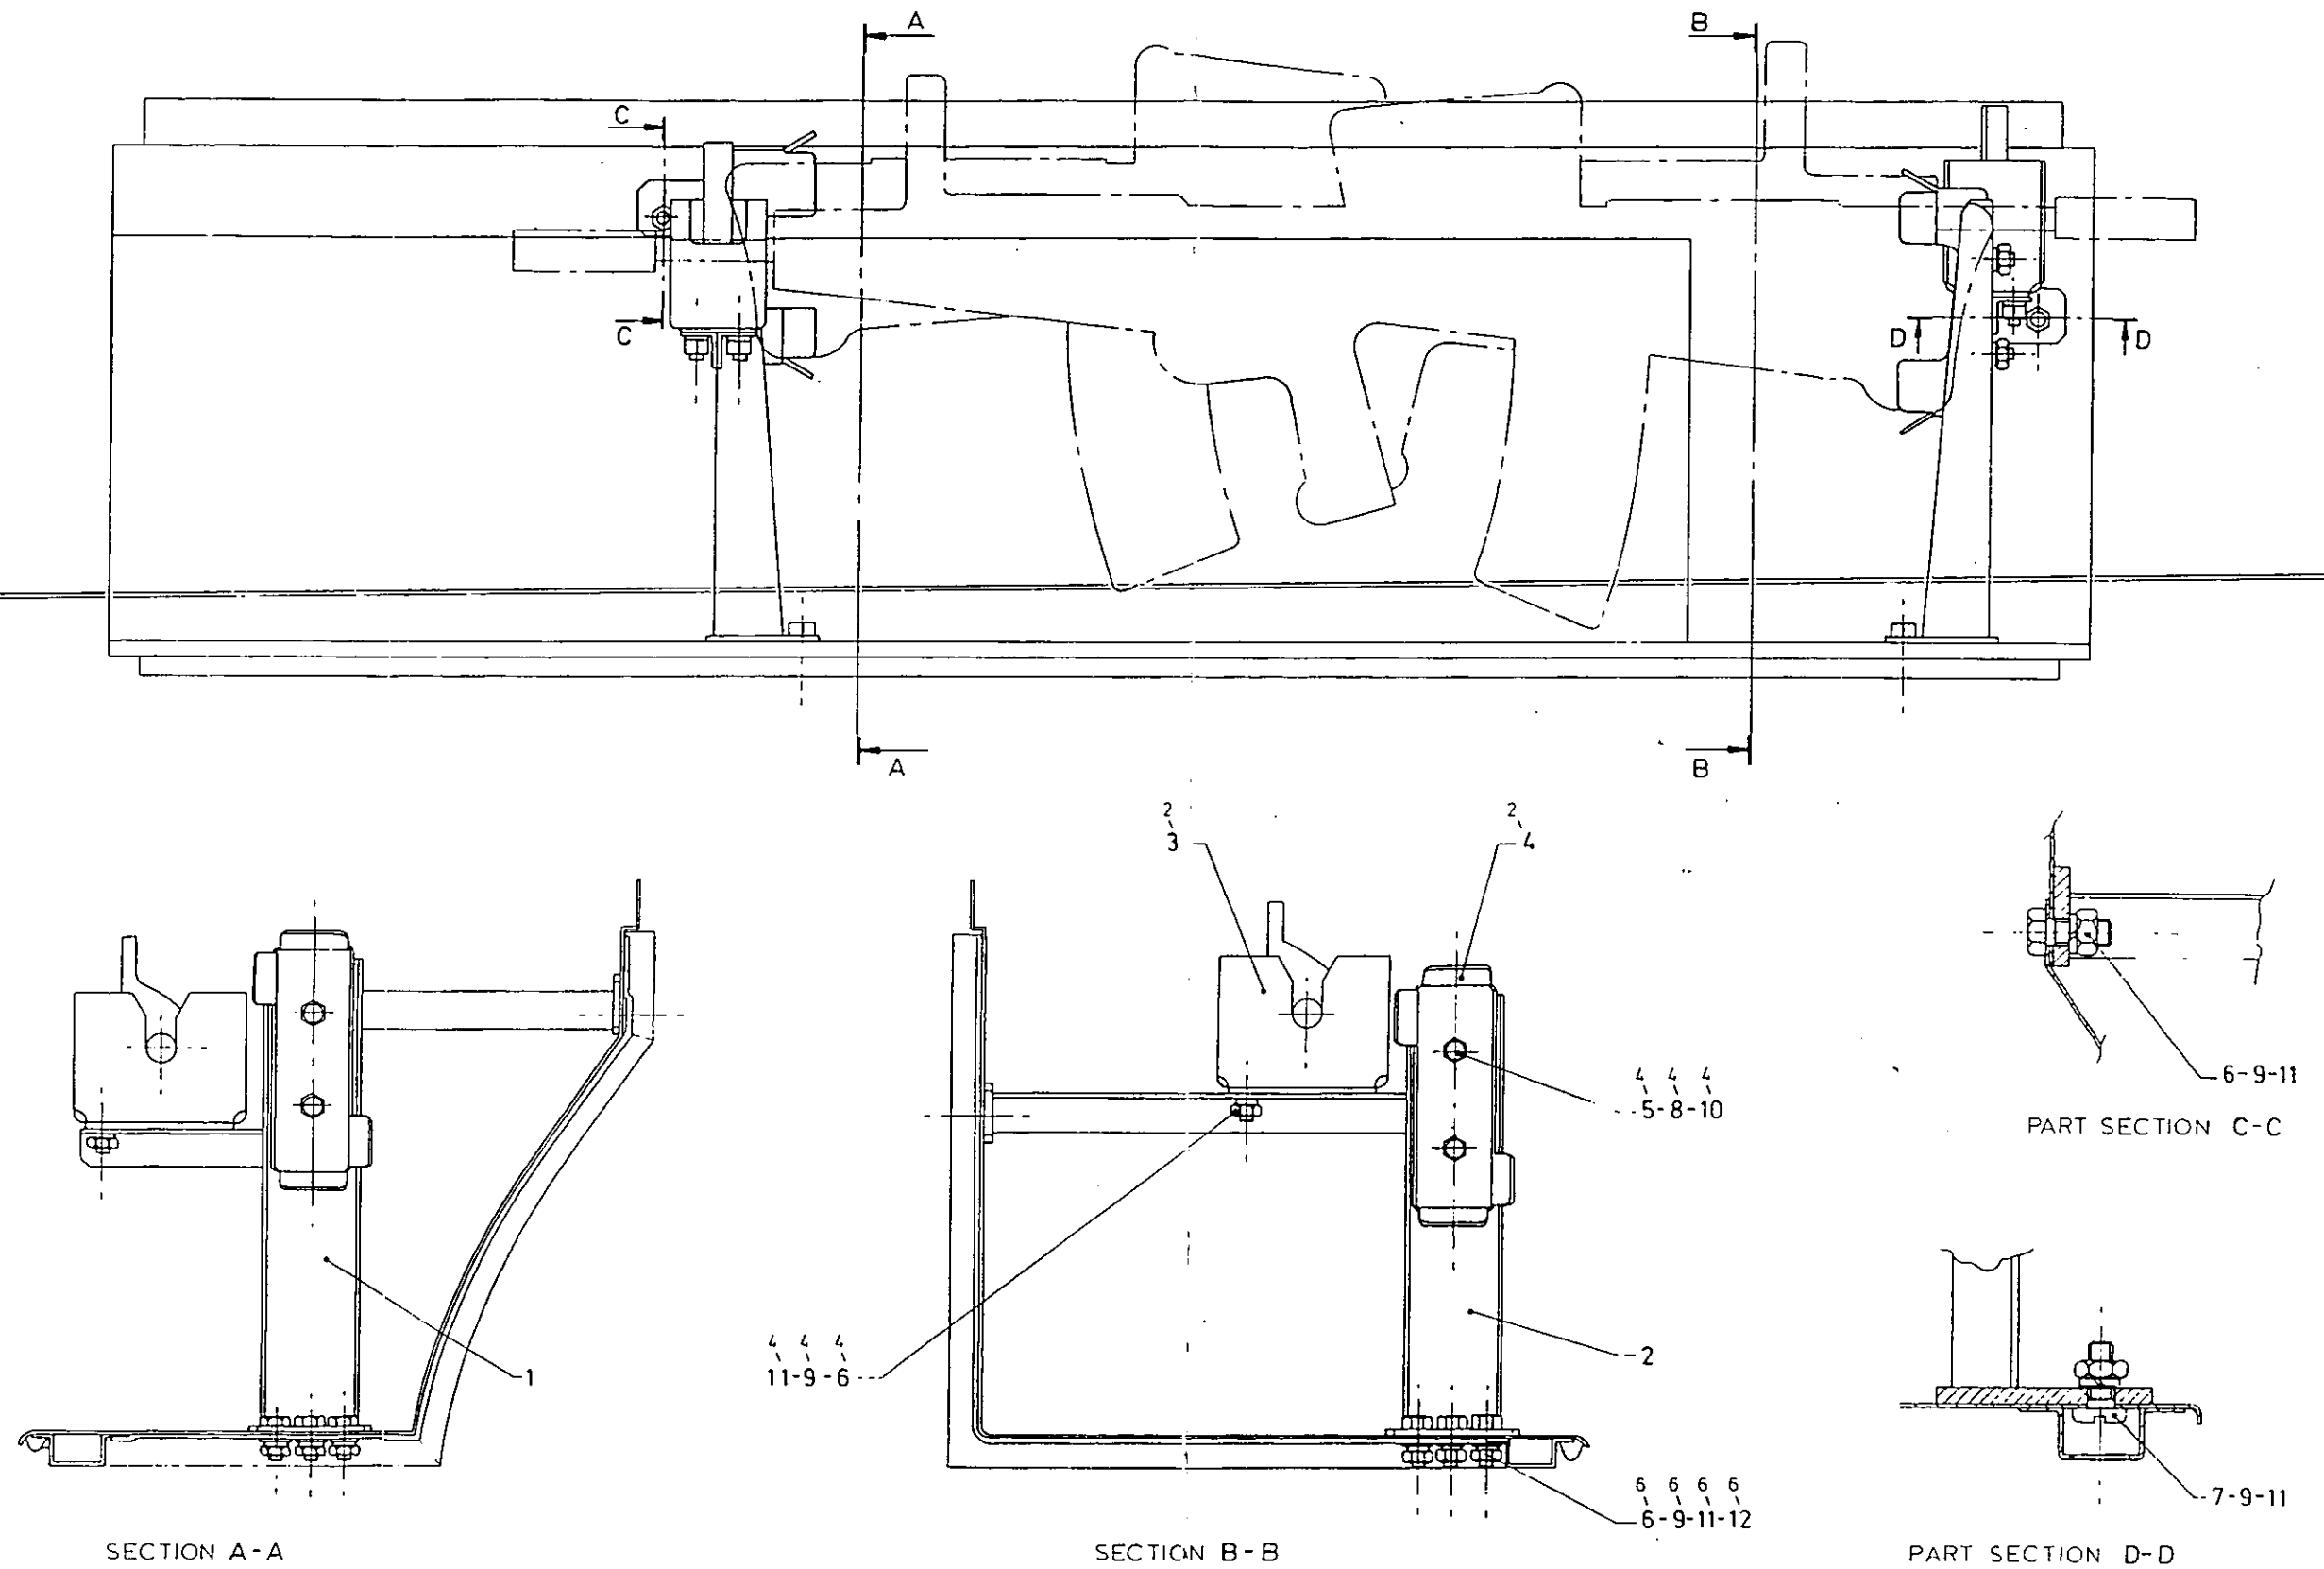

Fig 2 General arrangement of brackets and clips
9.2 Attach barrel and butt clips (items 3 and 4) to brackets (items 1 and 2) using (items 5, 6, 8, 9, 10, 11 and 12) see Fig 2 for location and quantity required.
9.3 Attach brackets (items 1 and 2) to engine cover using (items 6, 7, 9 and 11) see Fig 2 for location and quantity required.